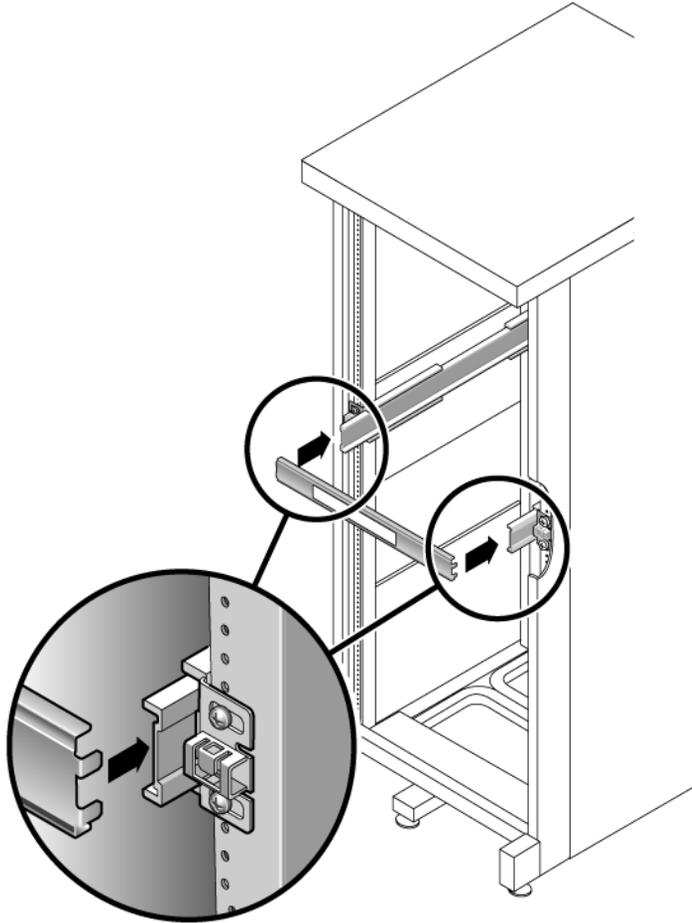

FIGURE 2-17 Adjusting the Distance Between the Slide Rails
- a. At the front of the rack, insert the left side of the tool into slots at the end of the left rail (FIGURE 2-17).